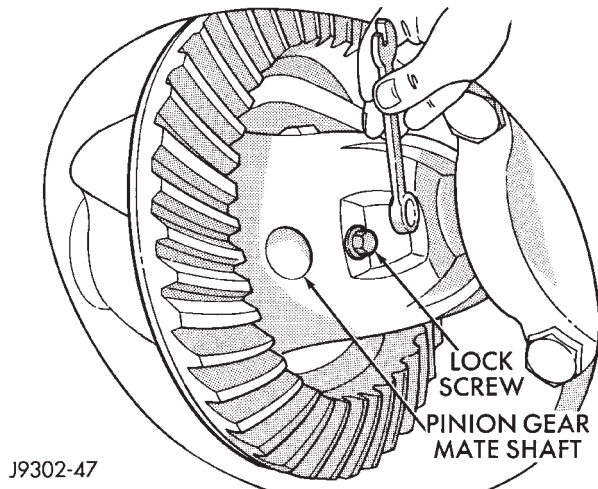

Fig. 53 Mate Shaft Lock Screw
(4) Remove the pinion gear mate shaft lock screw (Fig. 53).